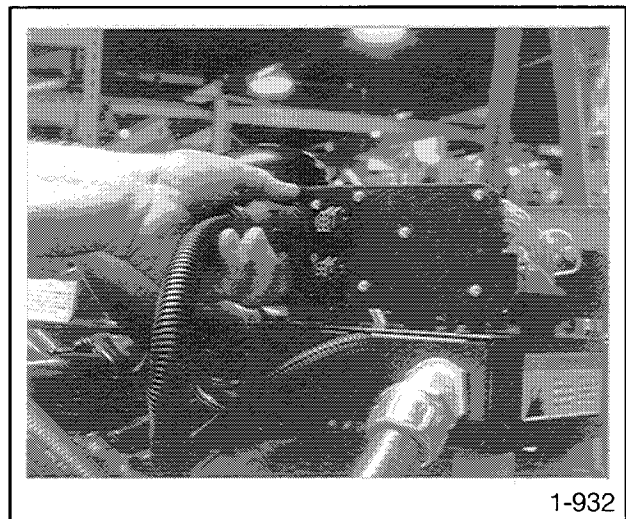

Figure 8-2. Disconnecting the 22-Pin Connector
2. Disconnect the 22-pin controller harness (P4) located at the back of the controller. See Figure 8-2.